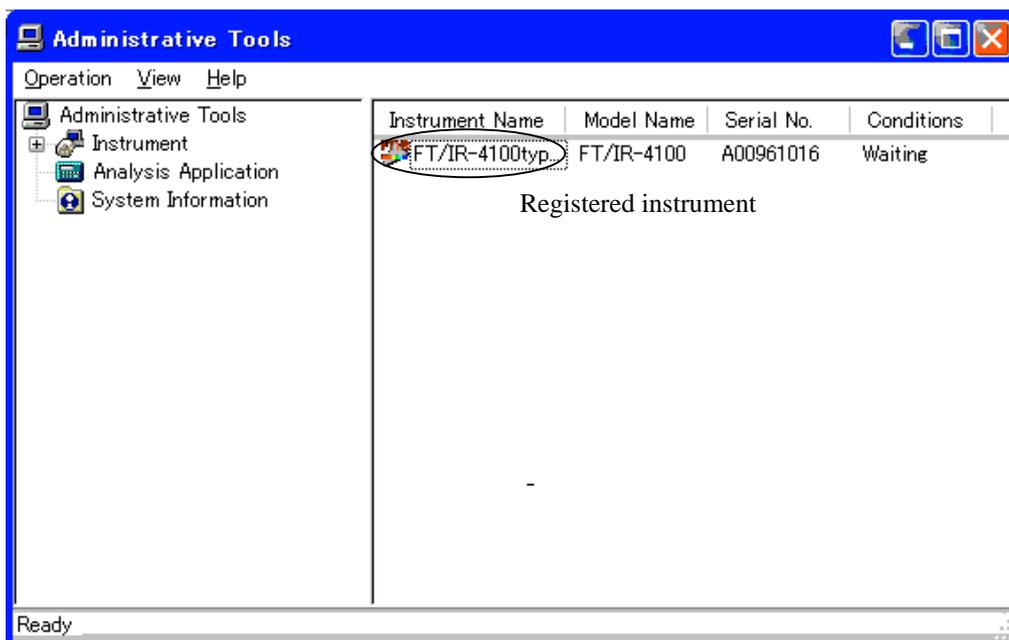

Fig.2.4 Administrative Tools window
The registered instrument name will appear on the right side of the Administrative Tools window. (Fig. 2.4)
- (4) After logging into Spectra Manager, open the Administrative Tools program, and click the 'Instrument' tab to view a dialog similar to Fig.2.4. Select the instrument recently registered and select [Properties] from the [Operation] menu, or click the right mouse button to obtain the context menu and click on the [Properties] command. Select the [Standard] tab, and verify the "Model", "Display Name" and "Serial No".